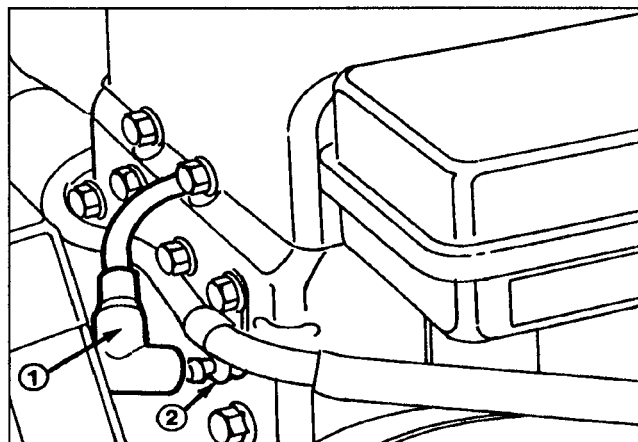

Figure 20
2. Pull wire off spark plug and remove plug from cylinder head (Fig. 20).